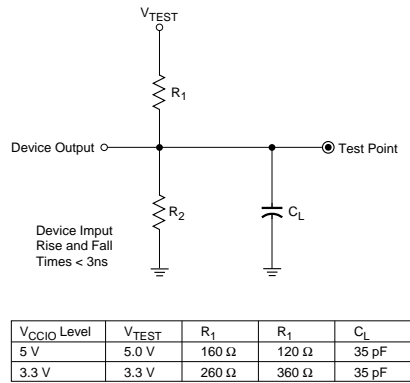

Figure 5: AC Load Circuit
- Notes: 1. All appropriate ac specifications tested using Figure 5 as test load circuit.